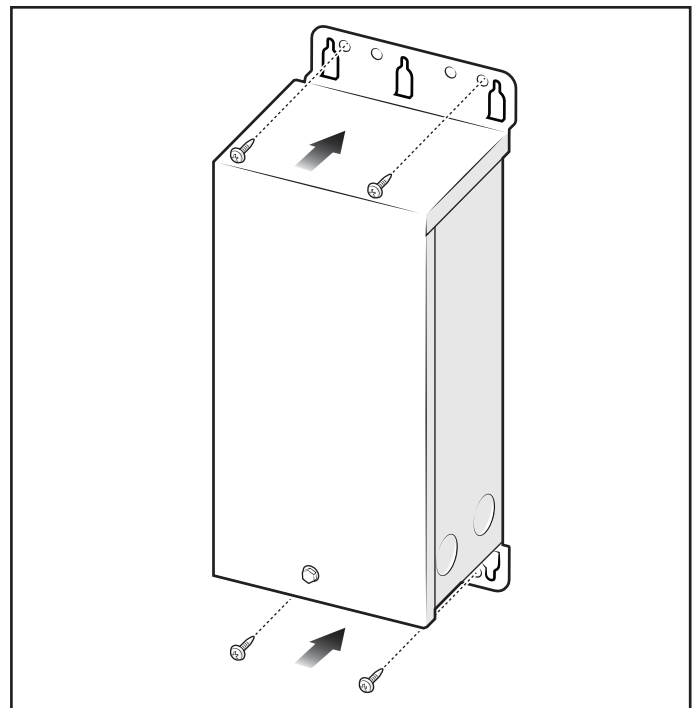

Figure 3. Mounting Light Controller
5. Secure screws (or other hardware appropriate for the mounting surface) through either the keyhole slots or the mounting holes of the Light Controller enclosure, see Figure 3.